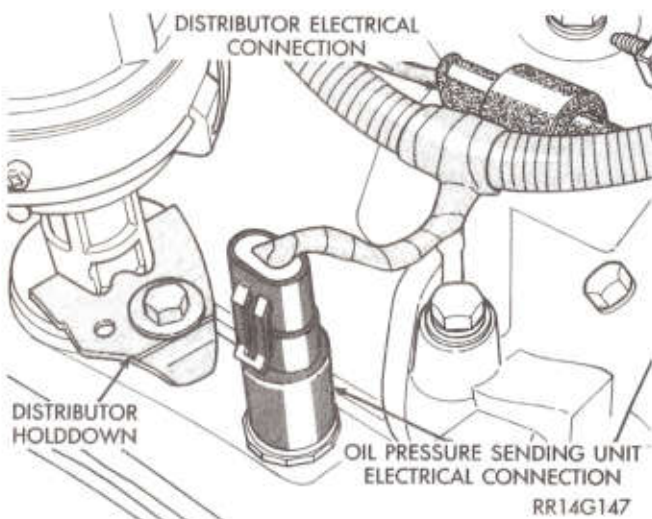

Fig. 7—Distributor, Oil Pressure Switch, and Electrical Connections
(9) Verify that 3-way connector is attached to distributor (Fig. 7).
(10) Verify oil pressure sending unit electrical connections is fully inserted (Fig. 7).